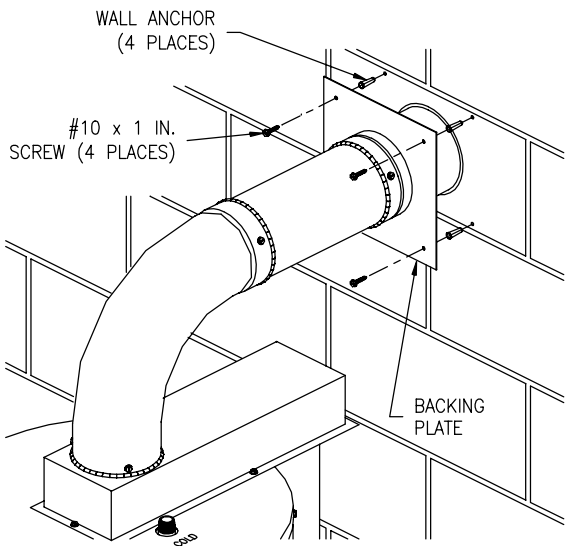

Figure 20
10. Mark the mounting screw hole locations for the backing plate. Rotate the backing plate in order to gain access to the markings. With a 3/16 inch diameter drill bit (not supplied), drill holes for the supplied wall anchors. Install the wall anchors and secure the backing plate to the wall with four (4) #10 x 1 inch screws (supplied). (See Figure 20). Note: Certain construction of walls may require the use of a different type of anchoring means than supplied.